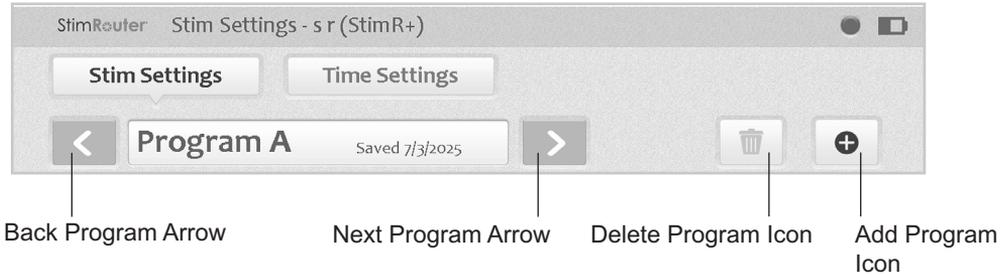

Figure 9-9: Program icons on the program bar
1. From the Stim Settings Window or Time Settings Window press the add program icon on the Program Bar. See Figure 9-9.